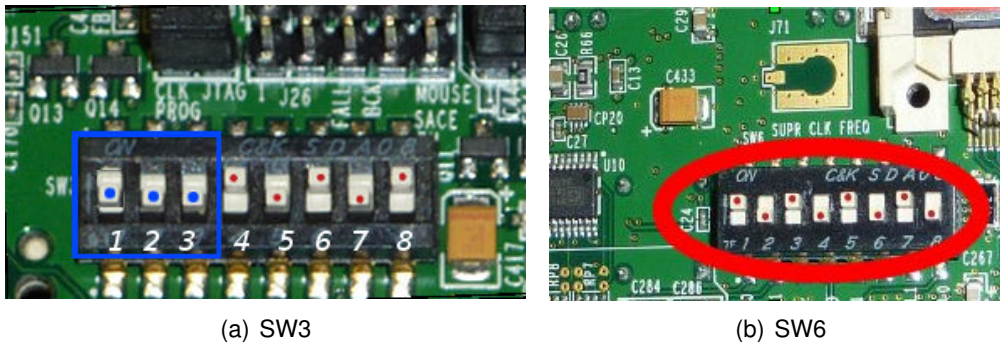

Figure 9: Pre-settings on the ML507 board
- Configuration address and mode DIP switches (SW3): 0 0 0 1 0 1 0 1 (Figure 9(a)).
- Configuration of clocking options (SW6 on back plane): 1 0 1 0 1 0 1 0 (Figure 9(b)).